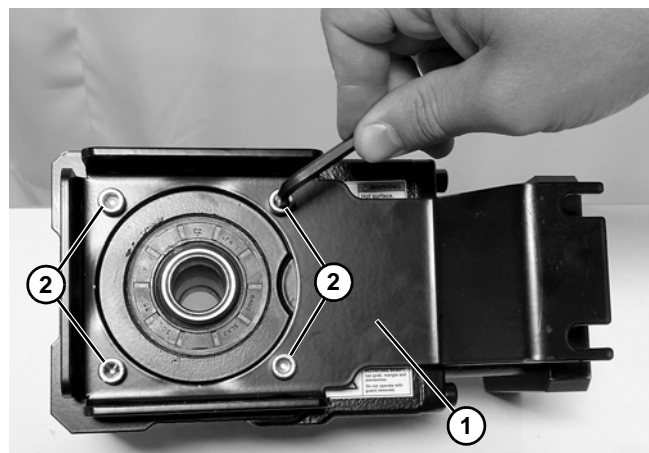

Figure 14
2. Attach mounting plate (Figure 14, item 1) to the side of the servo gear reducer using four fasteners (Figure 14, item 2).